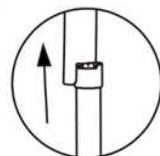
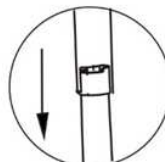

Figure A-1
Figure A-2
1. Folding: The treadmill is foldaway. Lift the end of the main frame and upwards to the folding position of cylinder, the link position should be buckled into the bayonet when folding (As Figure A-1).
3. Unfolding: Lift then end the the main frame to make the upper pole of cylinder higher than the bayonet surface; (As Figure A-1 shown), then put your toes to push the pole lightly, and pull down the frame to make the pole go over the bayonet position at the same time; (As Figure A-2 shown) Free your foot from the pole, but continue to press the frame slowly, then free your hand when the frame move down for a while, the cylinder contracts slowly under the action of gravity of the treadmill itself, and finally the frame goes to be flat. (As Figure B shown).